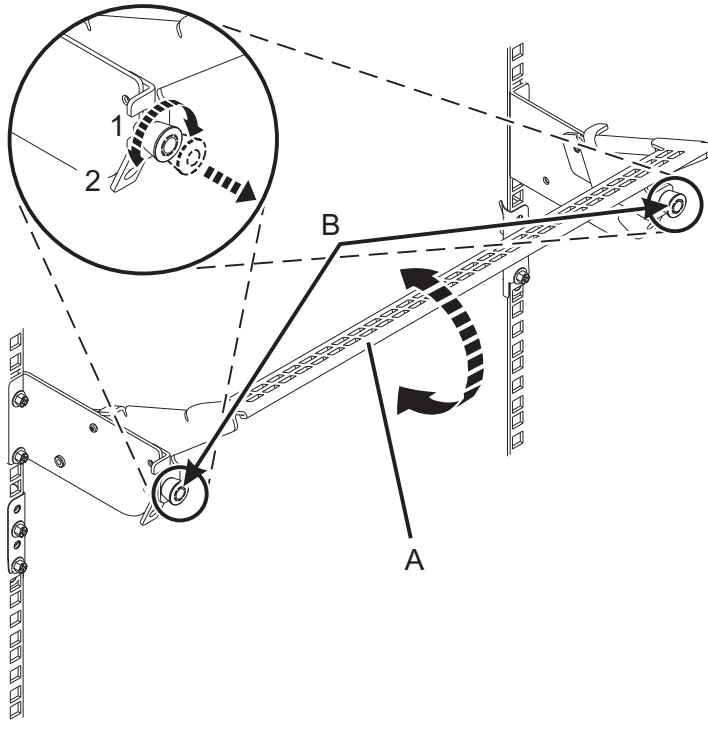

Figure 5. Placing the cable management bracket in the operating position
2. Put the cable management bracket in the operating position. See Figure 5 on page 6.